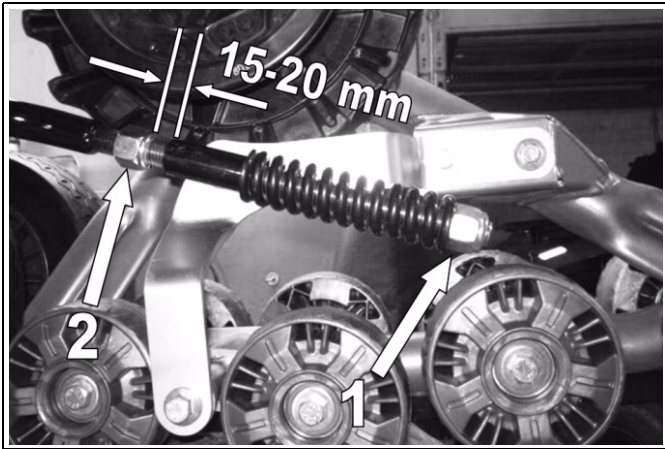

Figure 8
- Loosen the nut (1) compressing the spring of the stabilizing rod (see Figure 8).
- Set the nut (2) to obtain a distance of 15-20 mm as shown.
- Turn the nut (1) until it comes in contact with the spring, then compress the spring by turning this nut 1.5 turns.